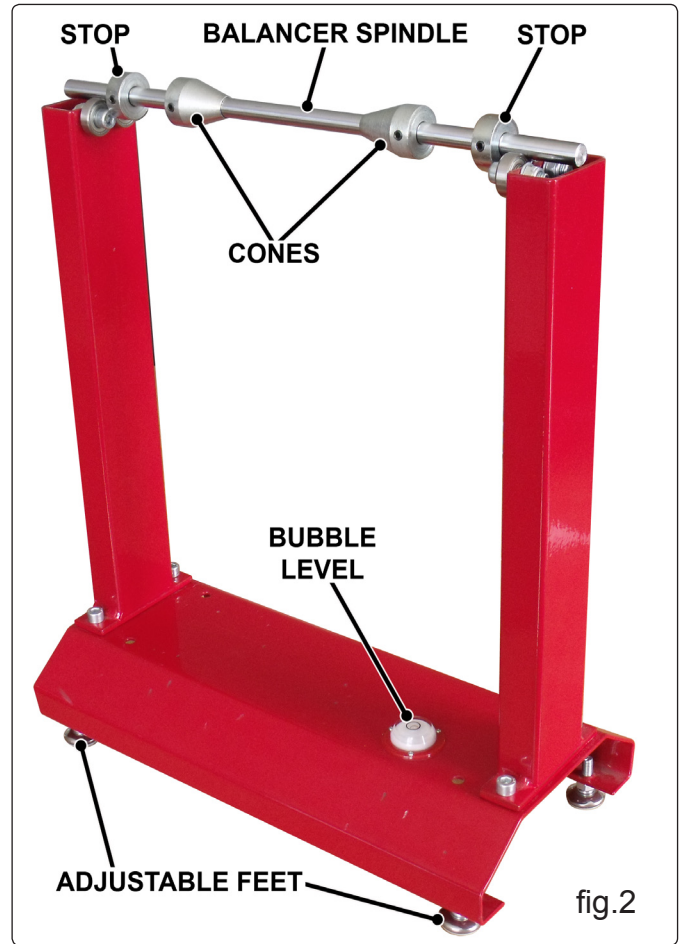

fig.2
- 3.1.2 Place the bubble indicator over the hole in the base and align the three holes in its flange with the three holes in the base. Secure with the 3 small screws and nuts supplied. See fig.2.